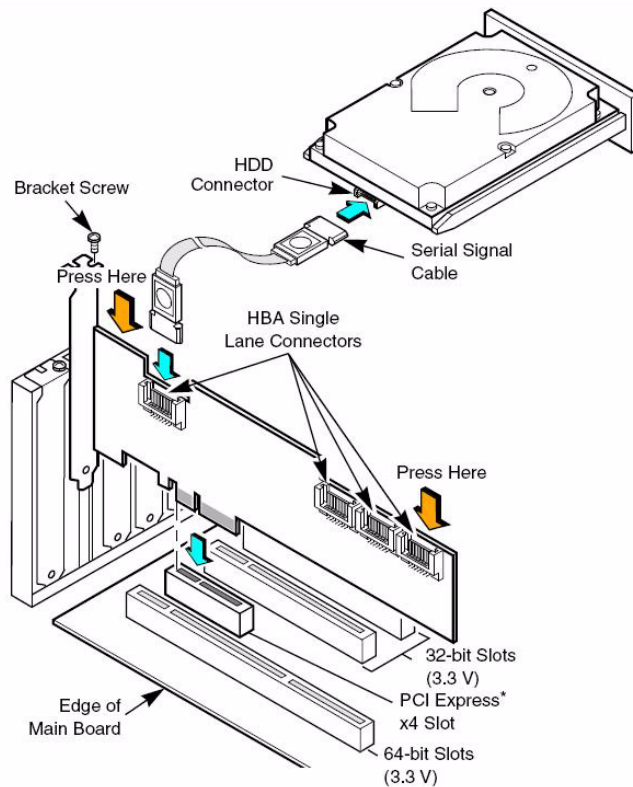

Figure 2. Attaching cables to the Intel® RAID Controller SASWT4I
5. Connect the SAS/SATA cables from the backplane (or hard drives) to the RAID Controller (see Figure 2). Make sure the cables are properly connected to the controller.